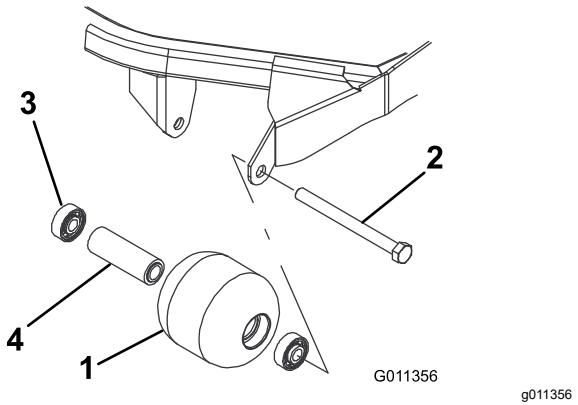

Figure 97
1. Remove the roller-mounting bolt (Figure 97).
4. Inspect the roller housing, bearings, and bearing spacer for damage (Figure 97). Replace any damaged components and assemble them.
1. Press the first bearing into the roller housing (Figure 97). Press on the outer race only or equally on the inner and outer race.
2. Insert the spacer (Figure 97).
3. Press the second bearing into the roller housing (Figure 97). Pressing equally on the inner and outer race until the inner race contacts the spacer.